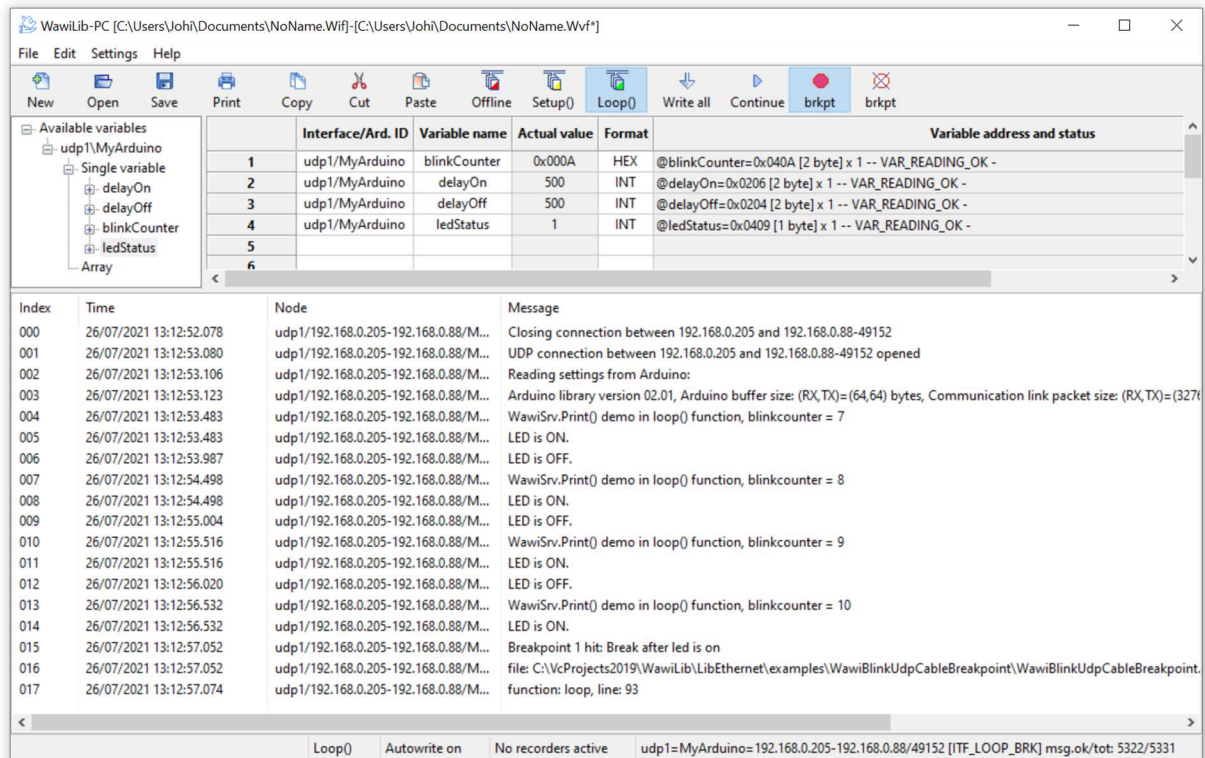

Fig 10.2. WawiBlinkUdpCableBreakpoint hit a breakpoint.
- ✓ Add the variables to the grid as indicated in fig. 10.2.
- ⇒ Fig 10.2. shows that a breakpoint was hit:
- ⇒ The output window also contains the source file name, the function and the source line where the breakpoint was hit. (fig. 10.2)